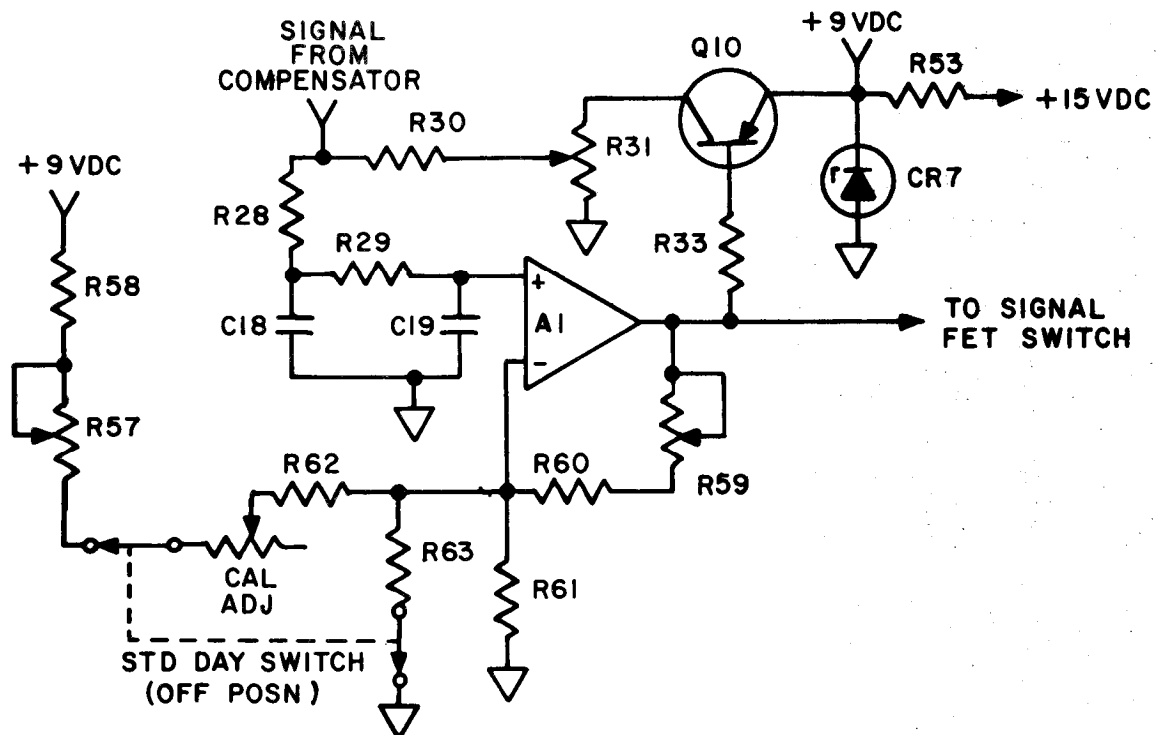

Figure 1-14. Temperature Indicator Amplifier Circuit.
1. The input signal is filtered by an R-C network consisting of R28, C18, R29, and C19 (fig. 1-14). A voltage divider incorporating a potentiometer (R31) makes it possible to adjust the indicator so it will drift upscale, downscale, or remain constant when the input is open. The voltage divider supply (9 vdc) is controlled by Q10 which in turn is driven by the output of amplifier A1. Q10 limits the voltage on the filter capacitors when the potentiometer is adjusted for upscale drift.
2. The input signal is applied to the non-inverting input of amplifier A1. A full-scale signal is amplified to approximately 8.8 vdc. Applied to the inverting input is the signal from a zero adjust circuit that has the configuration shown in figure 1-14 when the STD DAY switch is off. The zero adjust circuit balances out the fixed compensator output and amplifier offset voltages. R59 controls the gain of the amplifier and calibrates the A/D converter at the high end of the range.